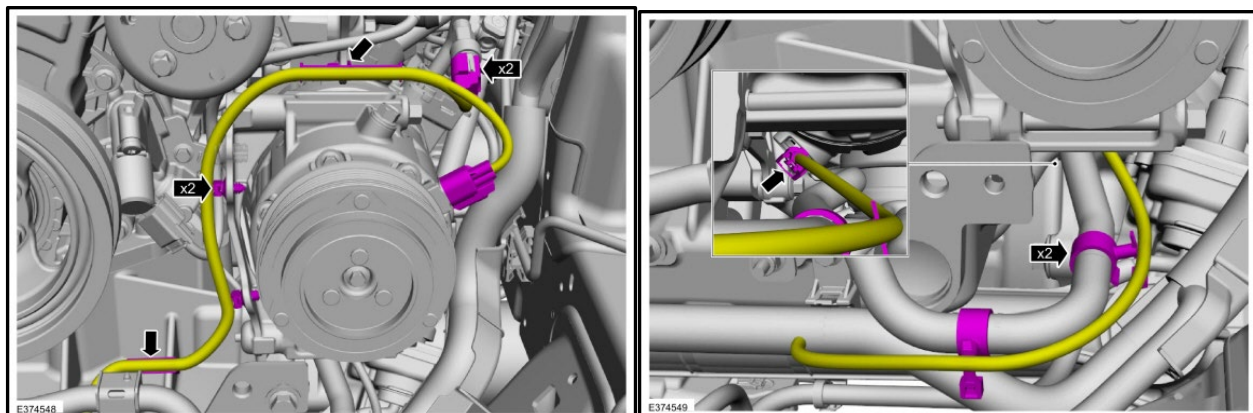

Figure 6
A. Disconnect the wire retainers and the A/C compressor electrical connectors. Figure 6